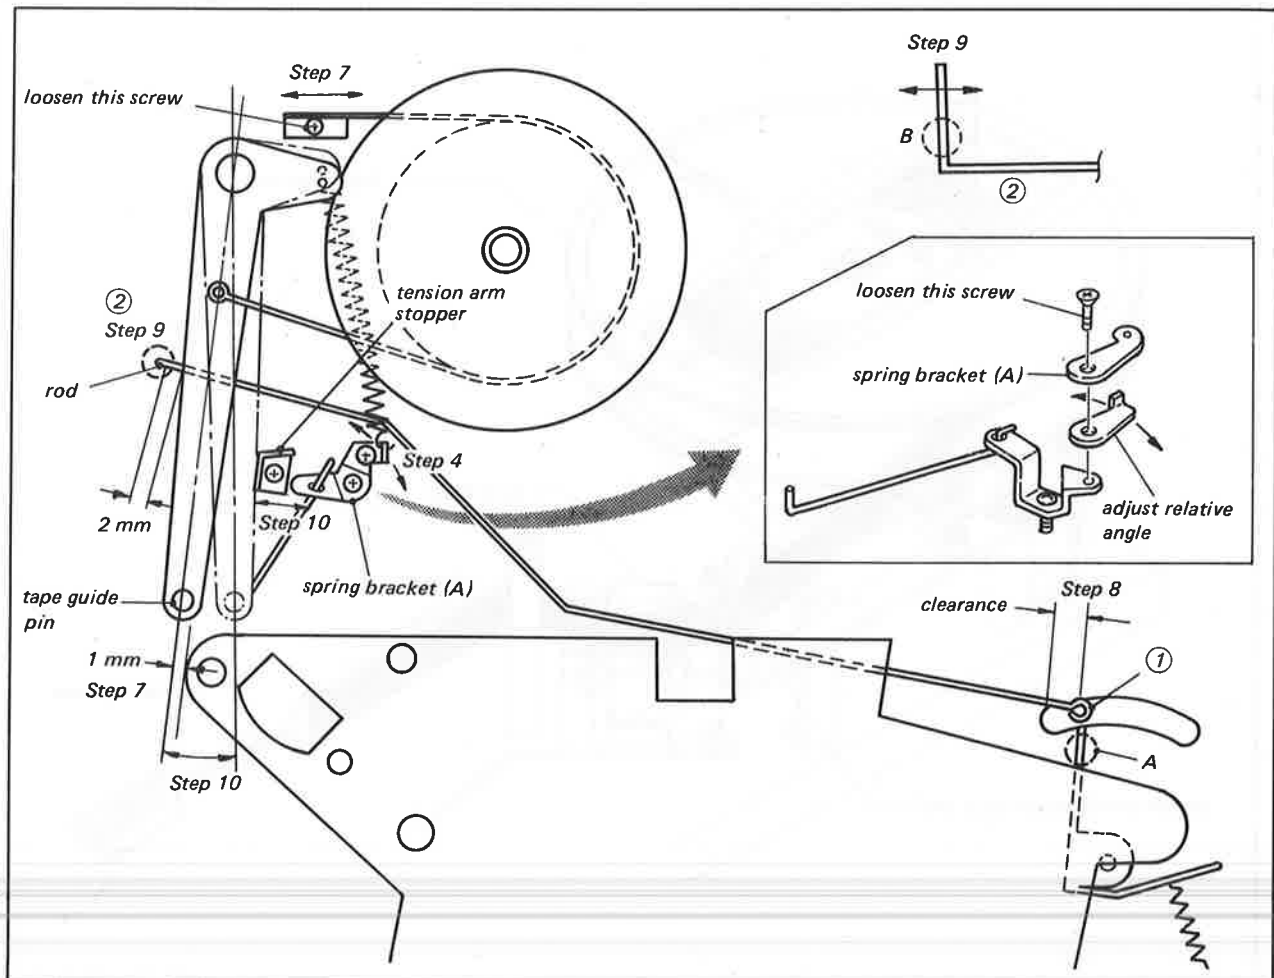

Fig. 4-9. Tension arm adjustment
4. If not, remove the Reel Panel and adjust the position of spring bracket (A) to obtain a correct reading. See Fig. 4-9.
7. Check the distance between the Tape Guide Pin on the Tension Arm and the extreme left edge of the drum deck as shown in Fig. 4-9. It should be about 1 mm. Swing the Brake Band as needed to obtain the correct spacing.
8. Check for clearance between the hole in the chassis and Item ① shown in Fig. 4-9. If the correct clearance cannot be obtained, bend Part A with a pair of pliers to obtain the gap. (Don't bend it too much.)
9. Check the distance between the rod and the Tension Arm as shown in Fig. 4-9. It should be 2 mm. Bend the end of rod as needed to obtain the correct spacing.
10. Set the Function Lever to the STOP position. Check the position of the Tape Guide Pin shown in Fig. 4-9. Reposition the Tension Arm Stopper to obtain the correct position.